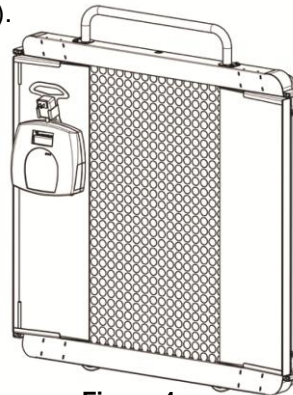

Figure 4
3. Lift the scale onto its side by pulling up on the handle (C). The scale will now be ready to transport, rolling on its wheels (see Figure 4).